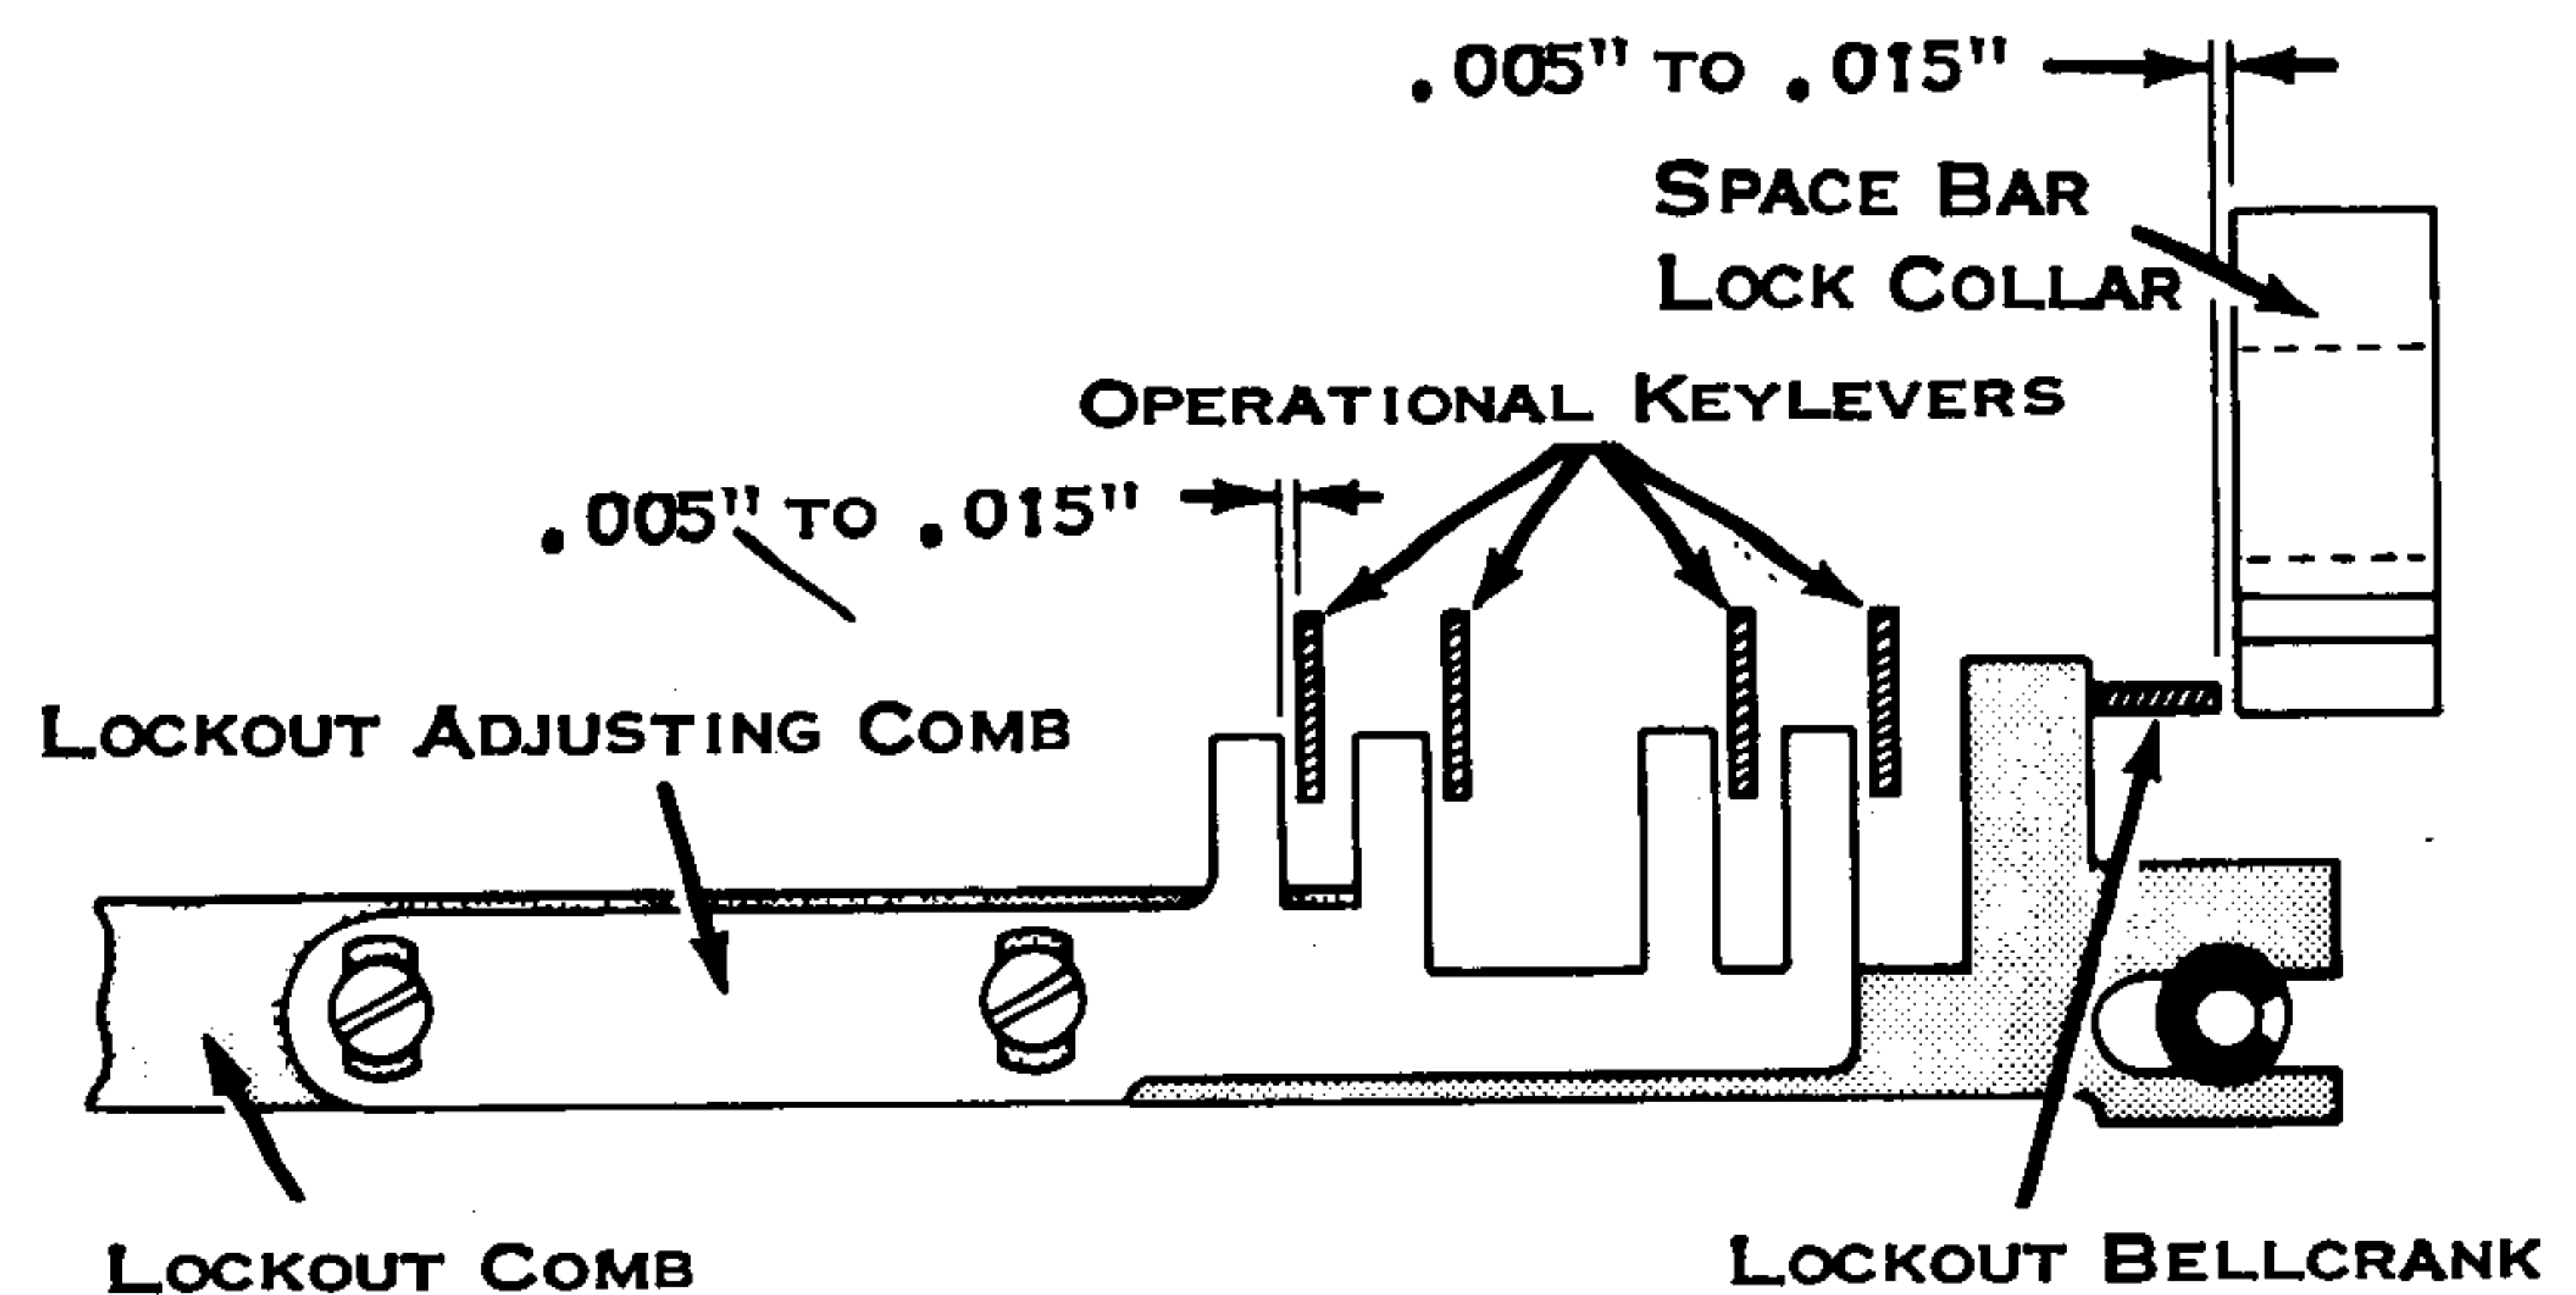

Figure 42. Adjusting Comb, Keyboard Unlocked
- With the keyboard unlocked, adjust the keyboard lock link clevis so that the operational keylevers clear the lockout adjusting comb by .005" to .015" (Fig. 42).
- a. Left or right to clear the lockout bellcrank by .005" to .015" with the keyboard unlocked (Fig. 42).